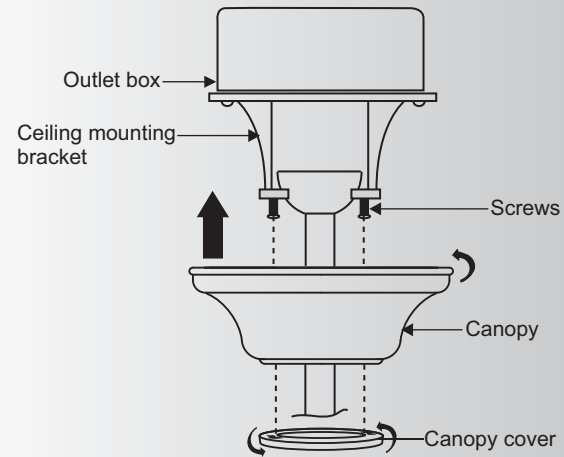

Fig. 14
Step 2. Slide the canopy up to ceiling and over the two screws on hanger bracket. Rotate canopy clockwise, next, while holding the canopy with one hand, slide the canopy cover over the screws and rotate clockwise until tight. **NOTE:** Adjust the canopy screws as necessary until the canopy and canopy cover are snug. (Fig.14)